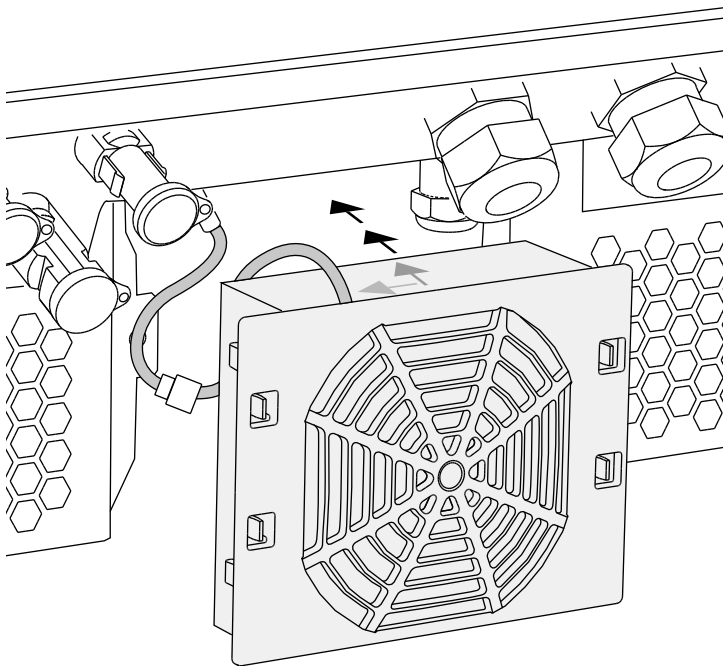

Fig. 73: Fan installation
- The fan must be correctly installed in the fan frame (air flow direction).  **Fig. 73**